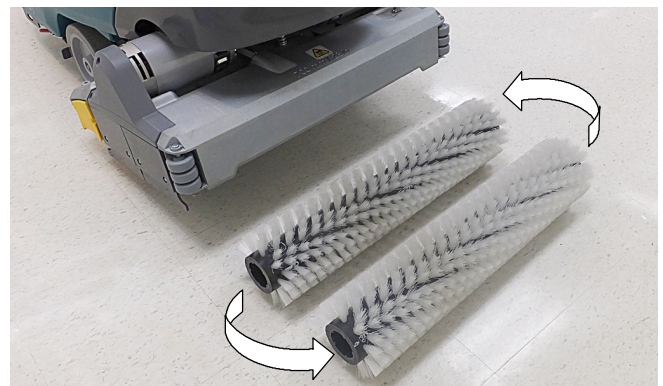

FIG. 121
3. Cylindrical brushes - Rotate brushes from front to rear (Figure 121). Replace brushes when they no longer clean effectively.